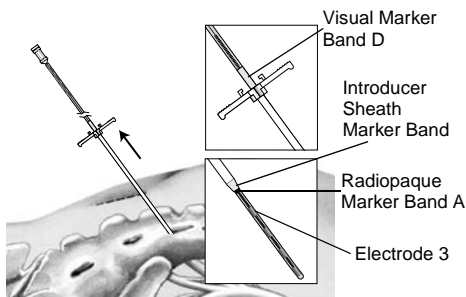

Figure 9. Retract introducer sheath to expose electrode 3.
7. While holding the lead in place, retract the introducer sheath until visual marker band D on the lead lines up with the introducer sheath handle. Using fluoroscopy, confirm that the radiopaque marker band at the tip of the sheath is proximal to electrode 3 and adjacent to radiopaque marker band A on the lead (Figure 9).